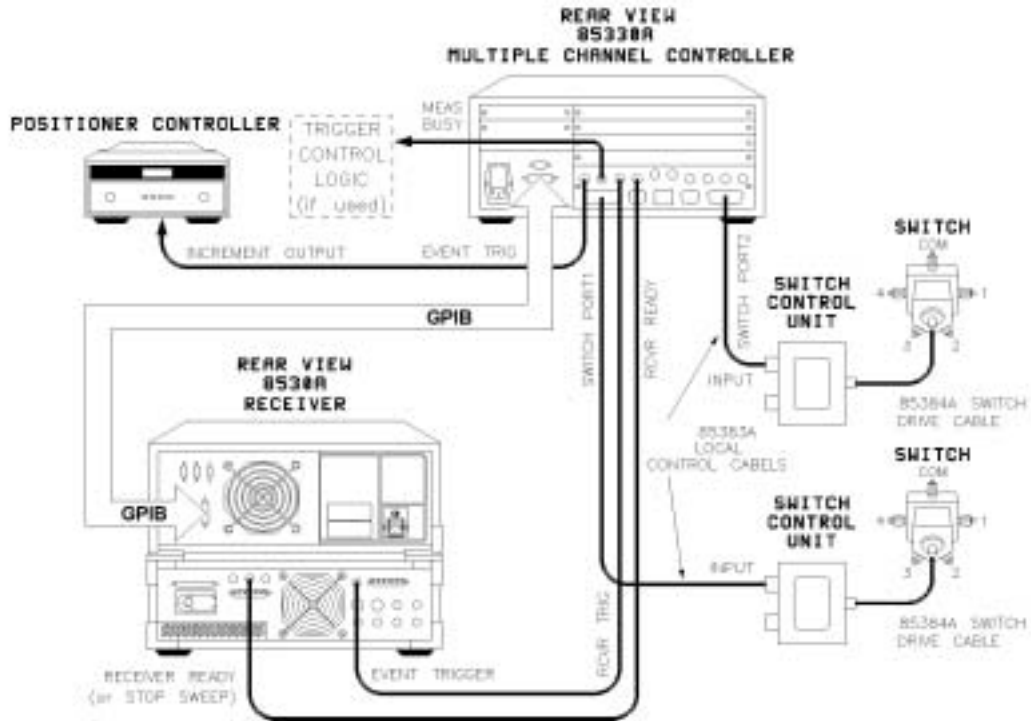
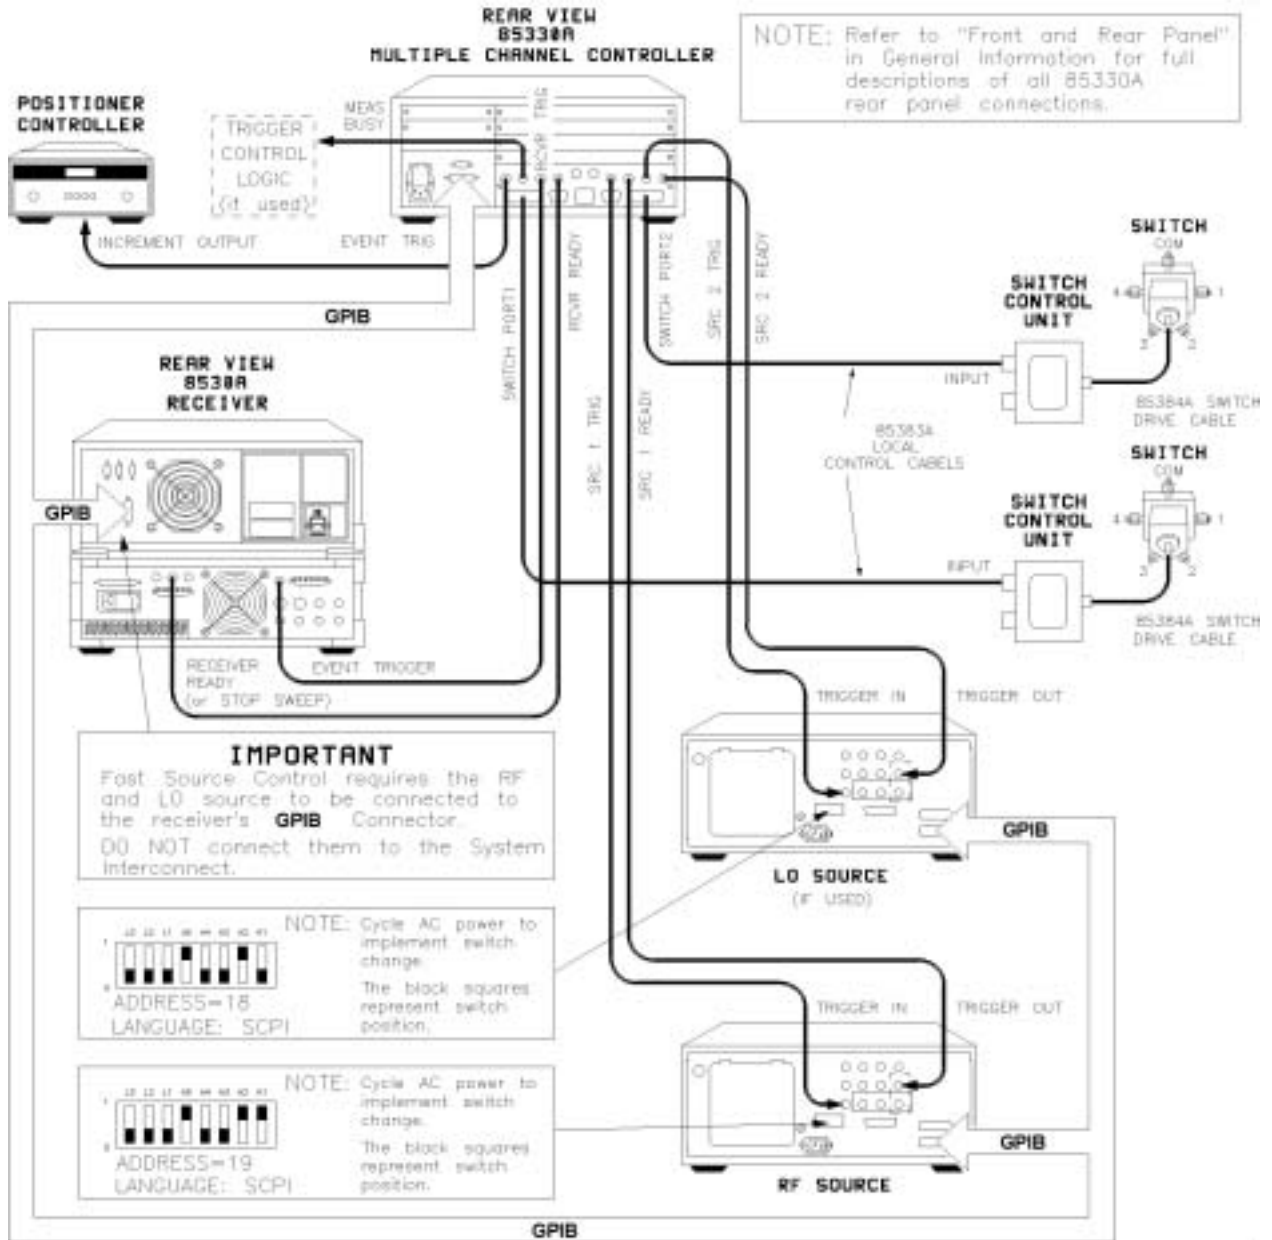

Figure 1-2 8530A Installation Diagram for 8530A Source Control
Figure 1-3 85330A Installation Diagram for Fast (TTL) Source Control
Follow the flow chart from the top. Determine if your measurements are made with a single frequency (CW), or multiple frequencies. Proceed down the appropriate flow chart path. Proceed in this way until you get to a box that recommends either Figure 1-2 on page 1-4, or Figure 1-3 on page 1-5.
Fast source control *speeds up frequency switching speed* in multiple-frequency measurements. It is only available in systems that use two Agilent 836xx series synthesized sources. This mode uses TTL signals to increment RF and LO source frequency, providing faster frequency switching speeds than are possible under 8530A control. In the fast source control configuration, the system's computer must set up the sources with appropriate frequency settings, triggering mode, and so on. When automatic **Run Time** measurement mode is engaged, the 85330A automatically increments the RF and LO source frequencies using TTL lines. More information is provided in Chapter 6, "Programming." When the sources are controlled by a computer, the SCPI language mode must be selected. This is shown in Figure 1-3 on page 1-5.
If the receiver does not have the RECEIVER READY, as shown in Figure 1-2 on page 1-4 and Figure 1-3 on page 1-5, then the STOP SWEEP may be used.